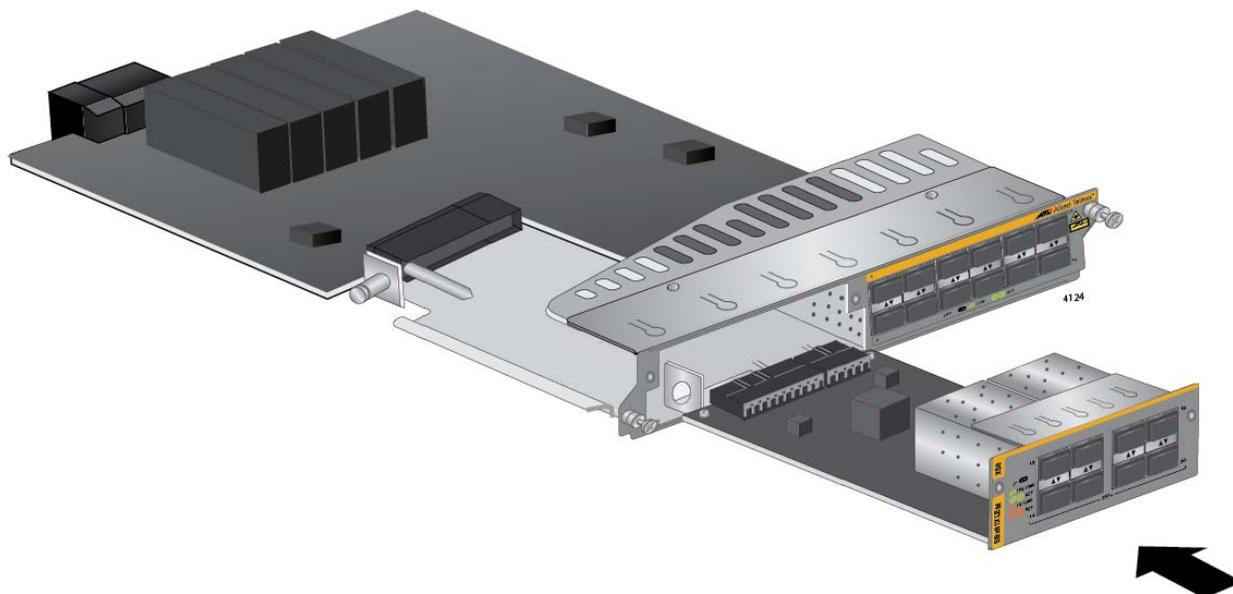

Figure 78. Sliding the Expansion Module into the AT-SBx81XLEM Line Card
- Carefully align the expansion module in the slot, as shown in Figure 78, and slide it into the line card.